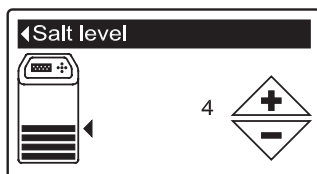

FIG. 23
1. When the softener is displaying the rolling status screens, open the salt lid. The tank light turns on and the Salt level screen appears (See Figure 23).
5. Press the SELECT (O) button to display the Salt level screen (See Figure 23). This screen will not automatically exit for 15 minutes.